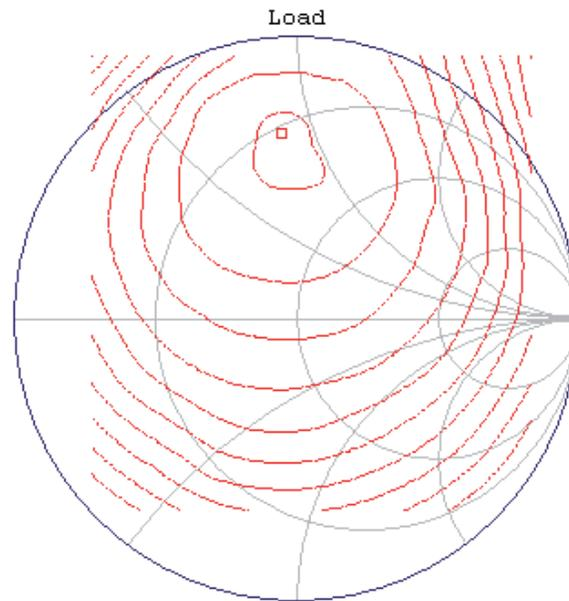

Figure 35. Load pull contour plot for R1=56ohm
1. S-parameters are measured on PCB. The PCB material is 10 mils Roger RO4350. Figure 35 shows the input and output reference plane.